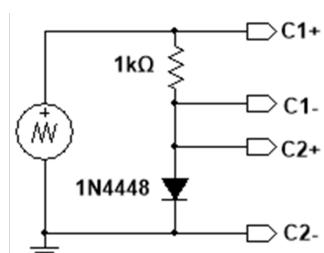

FIGURE 20. Circuit for diode characterization.
- (a) Look at the circuit in Fig. 20. Channel 1 measures the voltage across the resistor and Channel 2 measures the voltage across the diode. With these measurements, how can you estimate the current through the diode?
- (b) **Build** the circuit shown in Fig. 20. **Measure** the voltage across the resistor with Channel 1 and the voltage across the diode with Channel 2. **Use** the following settings: